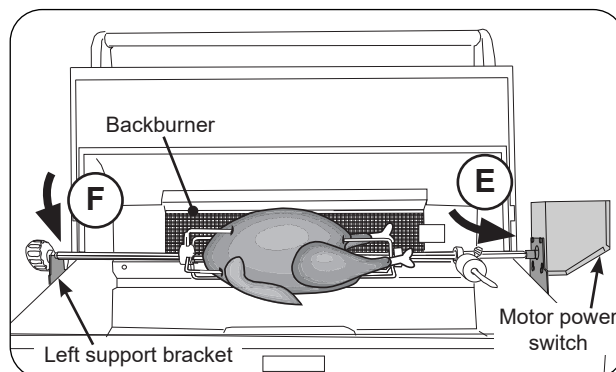

Fig. 27-4 Attach Rotisserie rod to motor
10. Insert the pointed-end of the rod into the motor drive socket (see Fig. 27-4, E). Then rest rod groove (next to the knob) into the left support bracket (see Fig. 27-4, F).